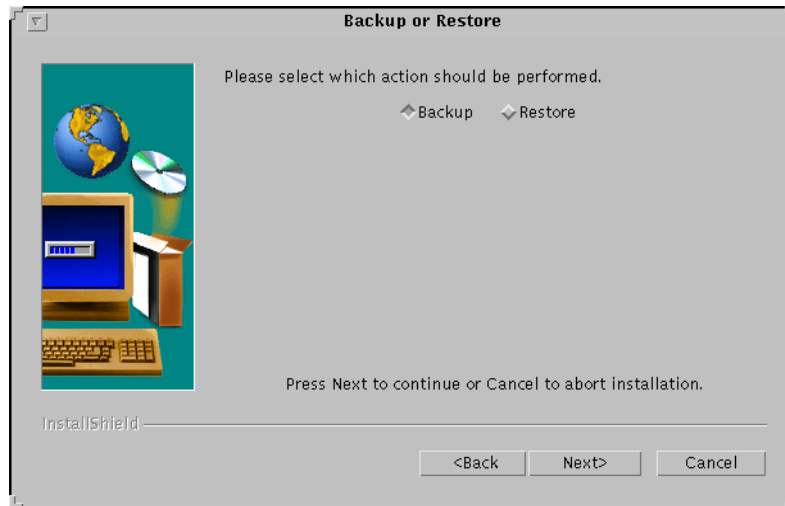

Figure B-3: Backup and Restore Menu
5. Select the Backup/Restore Data option and press the **Next** button. The Backup and Restore menu appears (see Figure B-3).